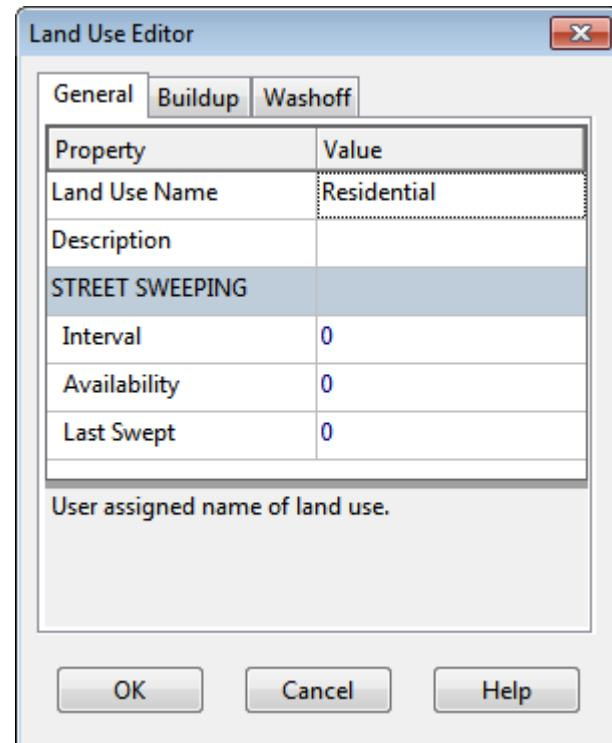

Figure 2-20 Land use editor dialog
- In the Land Use Editor dialog that appears (see Figure 2-20), enter **Residential** in the Name field and then click the **OK** button.